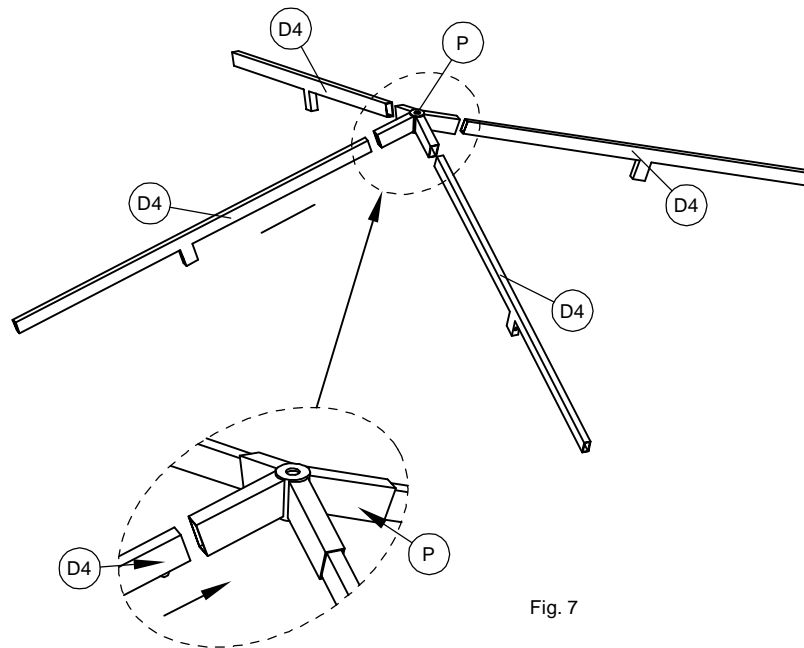

Fig. 7
Step 5: Insert the 4 short canopy support tubes (D4) into the short canopy HUB (P). Make sure to lock them in place by using push pin on the tubes. See figure 7.